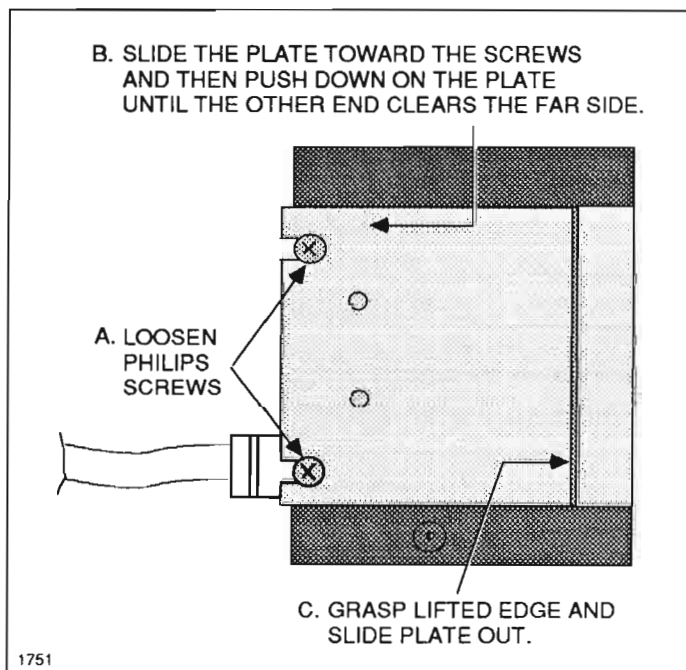

Figure 4-1. Removing the lamp terminal access cover.
See figures 4-1 through 4-4.
2. Remove the lamp terminal access cover located at the air and power input side of the unit (figure 4-1):